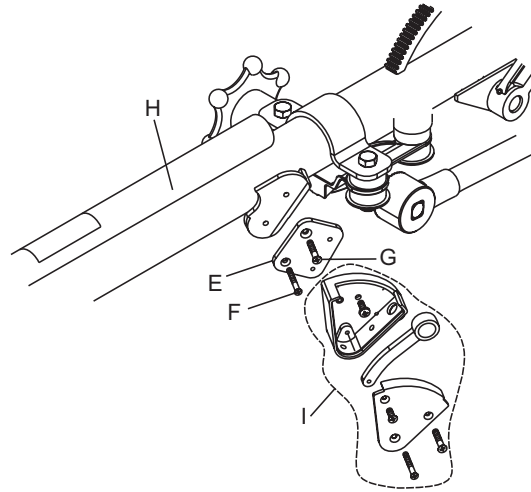

Figure 3. Installing Relocator Bracket
1. Install relocator bracket (E), P/N 22256 (Figure 3) between handle (H) and stop switch (I) using 8-32 phillips-head screw (F), and 10-24 phillips-head screw (G).
2. Re-install base, lever and cover plate as shown in Figure 3. Ensure the lever is oriented the same way as it was removed.